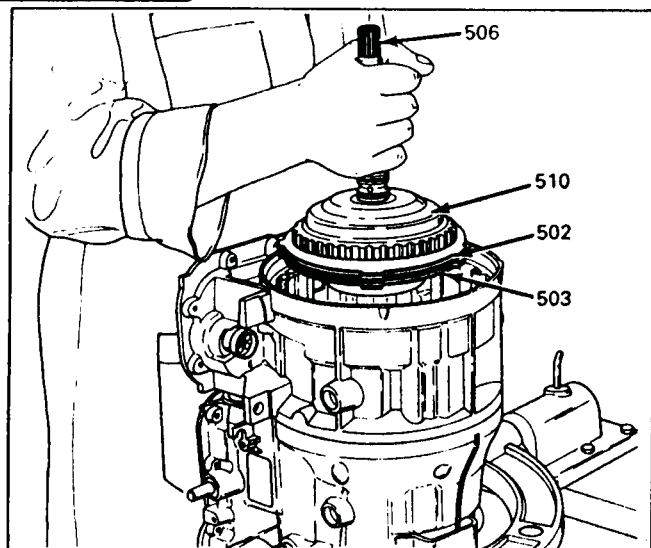

Figure 40
7. Firmly grasp the turbine shaft and lift out the overrun clutch housing, and fourth clutch plates, as shown in Figure 40.